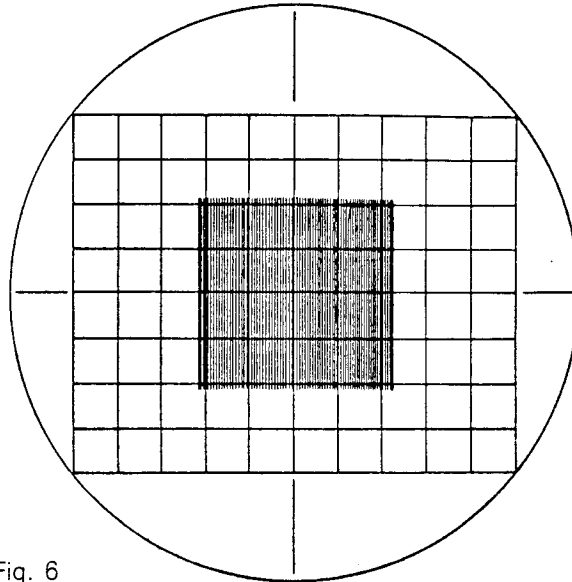

Fig. 6
Adjust the ST1000 frequency dial until the tuner signal strength ladder indicates 'centre-channel'. Adjust the right hand side core of L15 such that the oscilloscope trace is flat topped, as in Fig. 6. If necessary readjust L6 as in (4), then re-check.